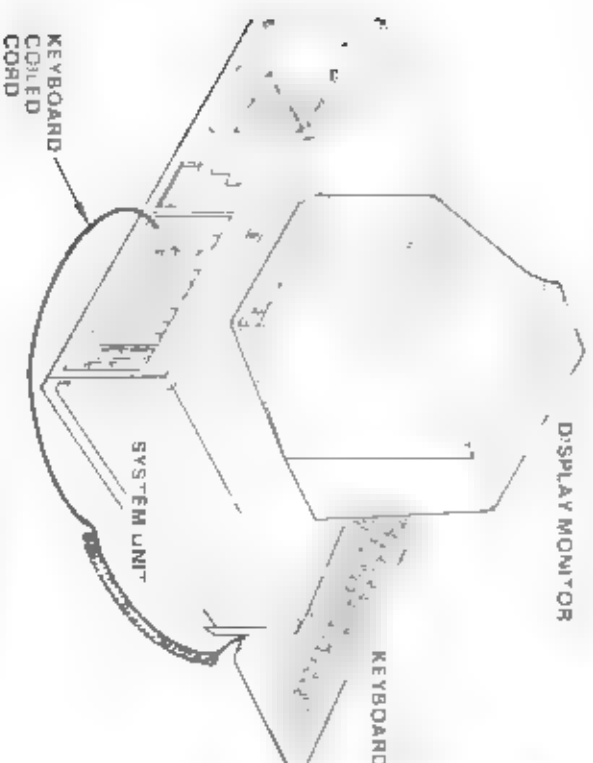

Figure 3-14 Connecting the Keyboard to the System Unit
2. Connect the keyboard to the system unit by plugging the coiled cord from the keyboard into the rear of the system unit as shown in Figure 3-14.